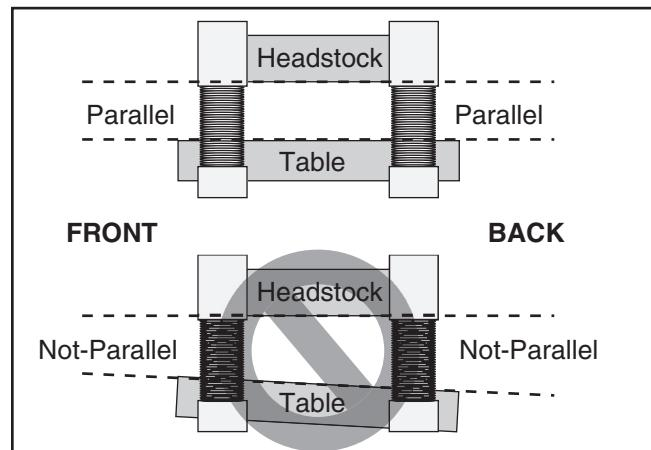

Figure 76. Front-to-back parallelism.
How the planer table sits in relation to the head casting from front-to-back is also important (see **Figure 76**). The tolerances on the front-to-back positioning are not as critical as the cutterhead/table side-to-side positioning. Therefore, the maximum allowable tolerance for the front-to-back parallelism is not more than 0.020".
- If the table is not parallel to the cutterhead front-to-back (**Figure 76**), loosen the two lock nuts at the front or back of the cylinder liner. Adjust the set screws to raise or lower the front or back of the table so it is parallel to the cutterhead.